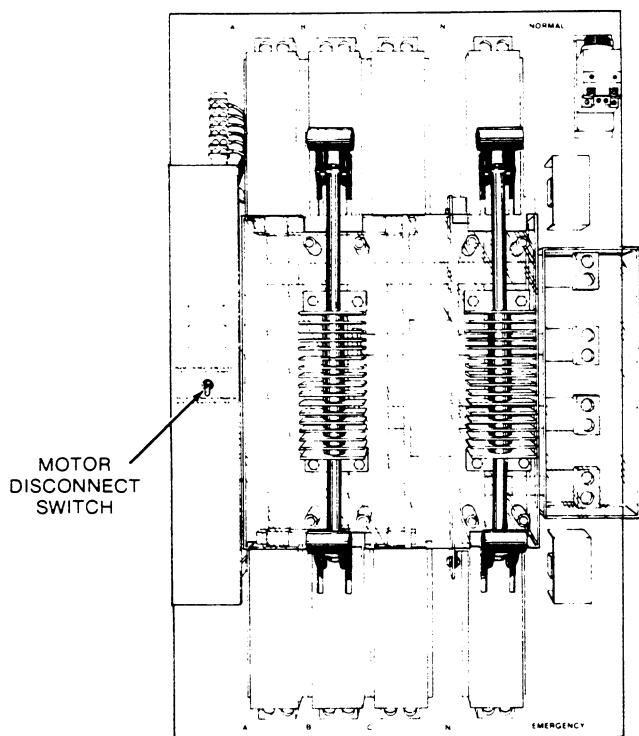

FIGURE 4.
1. Move the motor disconnect switch to the DOWN, manual operation position. See Figure 4.